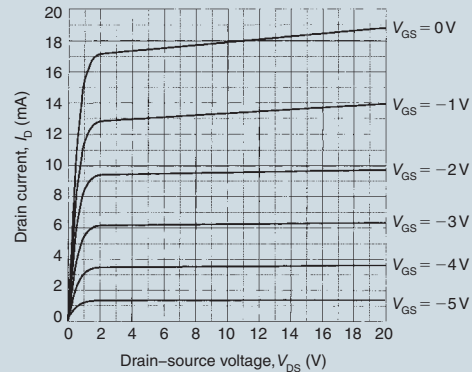

Figure 14.29
- The output characteristics of a JFET are shown in Fig. 14.29. If this device is used in an amplifier circuit operating from an 18 V supply with a gate-source bias voltage of -3 V and a load resistance of 900Ω , determine (a) the quiescent values of drain-source